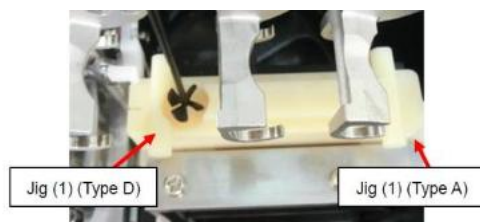

Figure 3.12 Beads Mixing Position (X)
- Perform Pulse Adjustment so that the paddle is located in the center of the hole. (Figure 3.12)